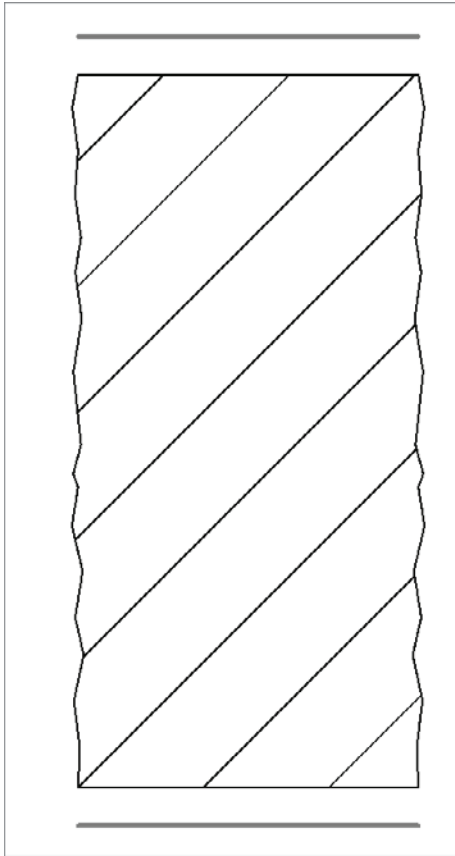

FIGURE 12.21 The finished soldier
18. Click Finish Edit Mode. Your brick should resemble Figure 12.21.